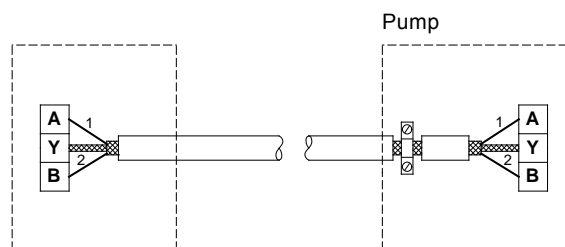

Fig. 18 Connection with screened 2-core cable
- If a screened 2-core cable is used in the existing installation, connect it as shown in fig. 18.